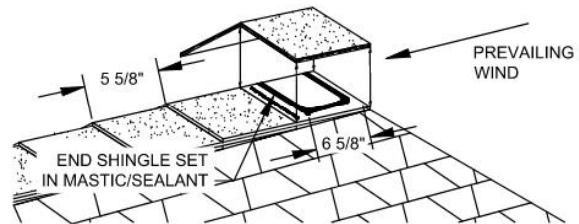

Figure 22 - Installation of RidgeFlex™ Shingles; End Cap Set in Mastic
Should adverse conditions exist (like high winds), the end cap can also be face-nailed. Place two (2) nails on each side, 1" (25 mm) back from each end, and 1" (25 mm) up from the sides. Cover the nailheads with a dab of sealant. (See Figure 22)